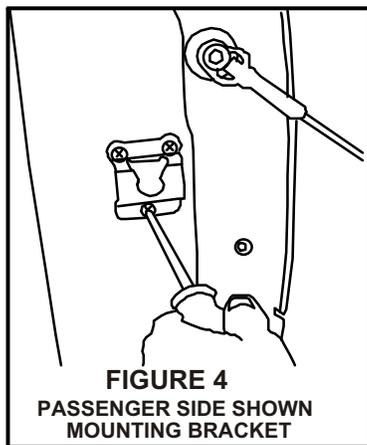

FIGURE 4
- STEP 5. Mount the bracket with the provided sheet metal screws. (The bracket mounts on top of the bedliner if the truck has a bedliner.) Repeat steps 2 through 5 for installing the mounting bracket on the opposite side. (See Figure 4)